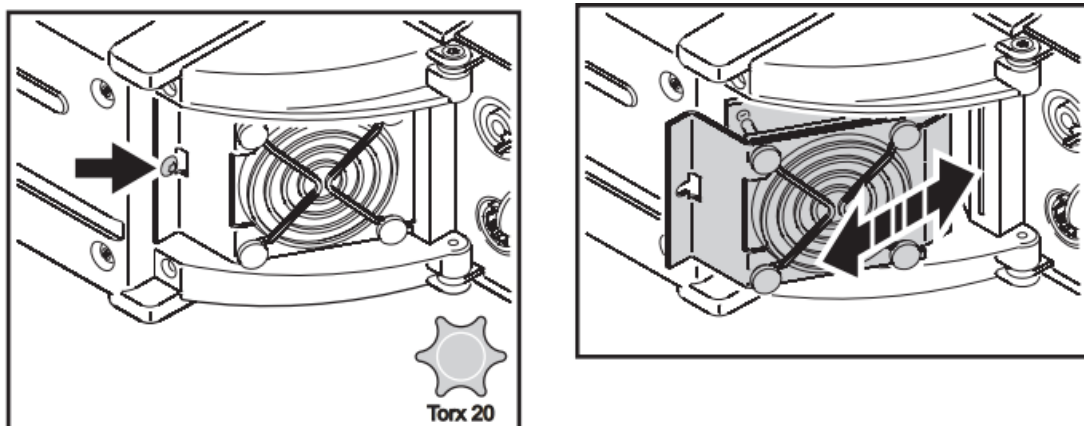

Figure 4: Cooling fan removal
5. See Figure 4. If a cooling fan or grille requires more thorough cleaning, loosen the fan assembly retaining screw (arrowed) slightly and slide the assembly out of the end cap for access. Do not strain the wires to the fan. Brush dirt from the fan blades with a soft brush, preferably in conjunction with a vacuum cleaner.